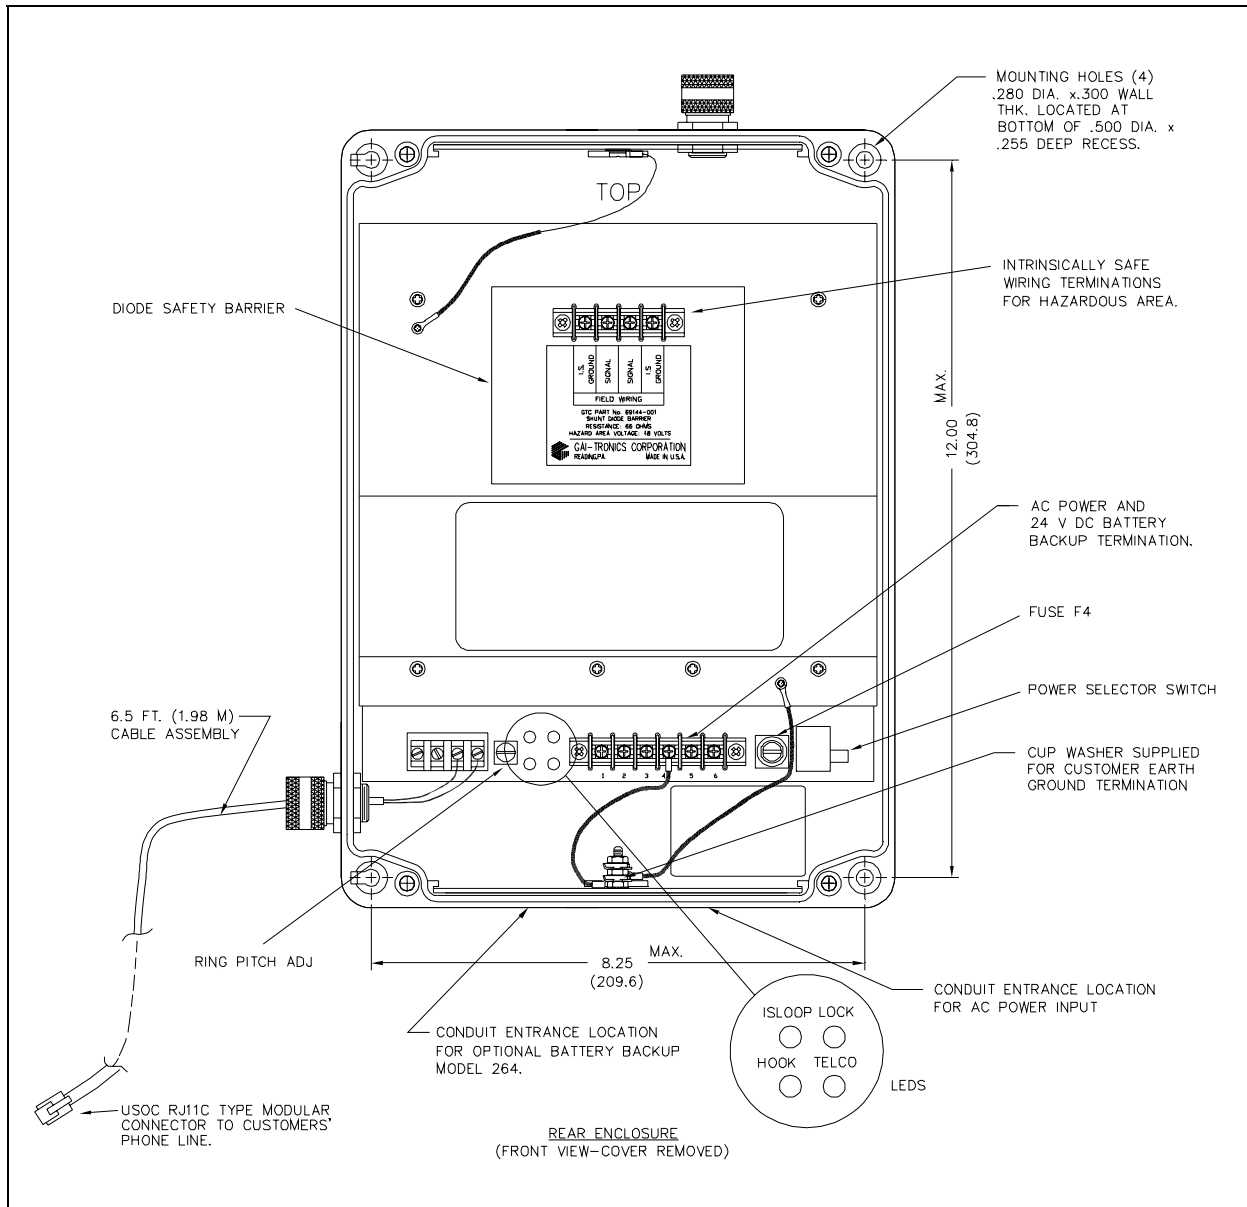

Figure 2. Rear of IBU enclosure with cover removed
3. Call the I.S. telephone from another telephone, and adjust the RING PITCH (located on the IBU) to the desired pitch. See Figure 2 for location.